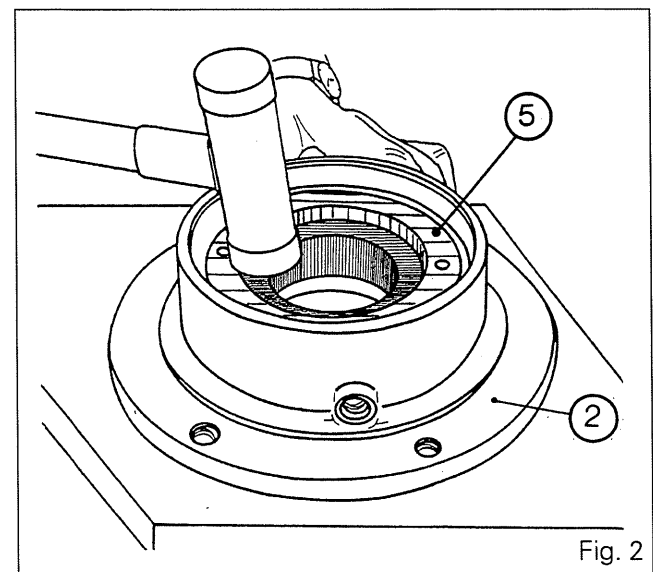

Fig. 2
11. Clean the finger (4) and smear it with Loctite 221. Then fit it onto the carrier (2) and tighten.
12. Smear the O-rings (3) and (6) with miscible grease («Amber Technical» or equivalent) in order to position them correctly at the bottom of their respective grooves.
13. Using a plastic mallet, fit the pistons (5) in the carrier (2) (Fig. 2), paying attention to the position of the finger (4).